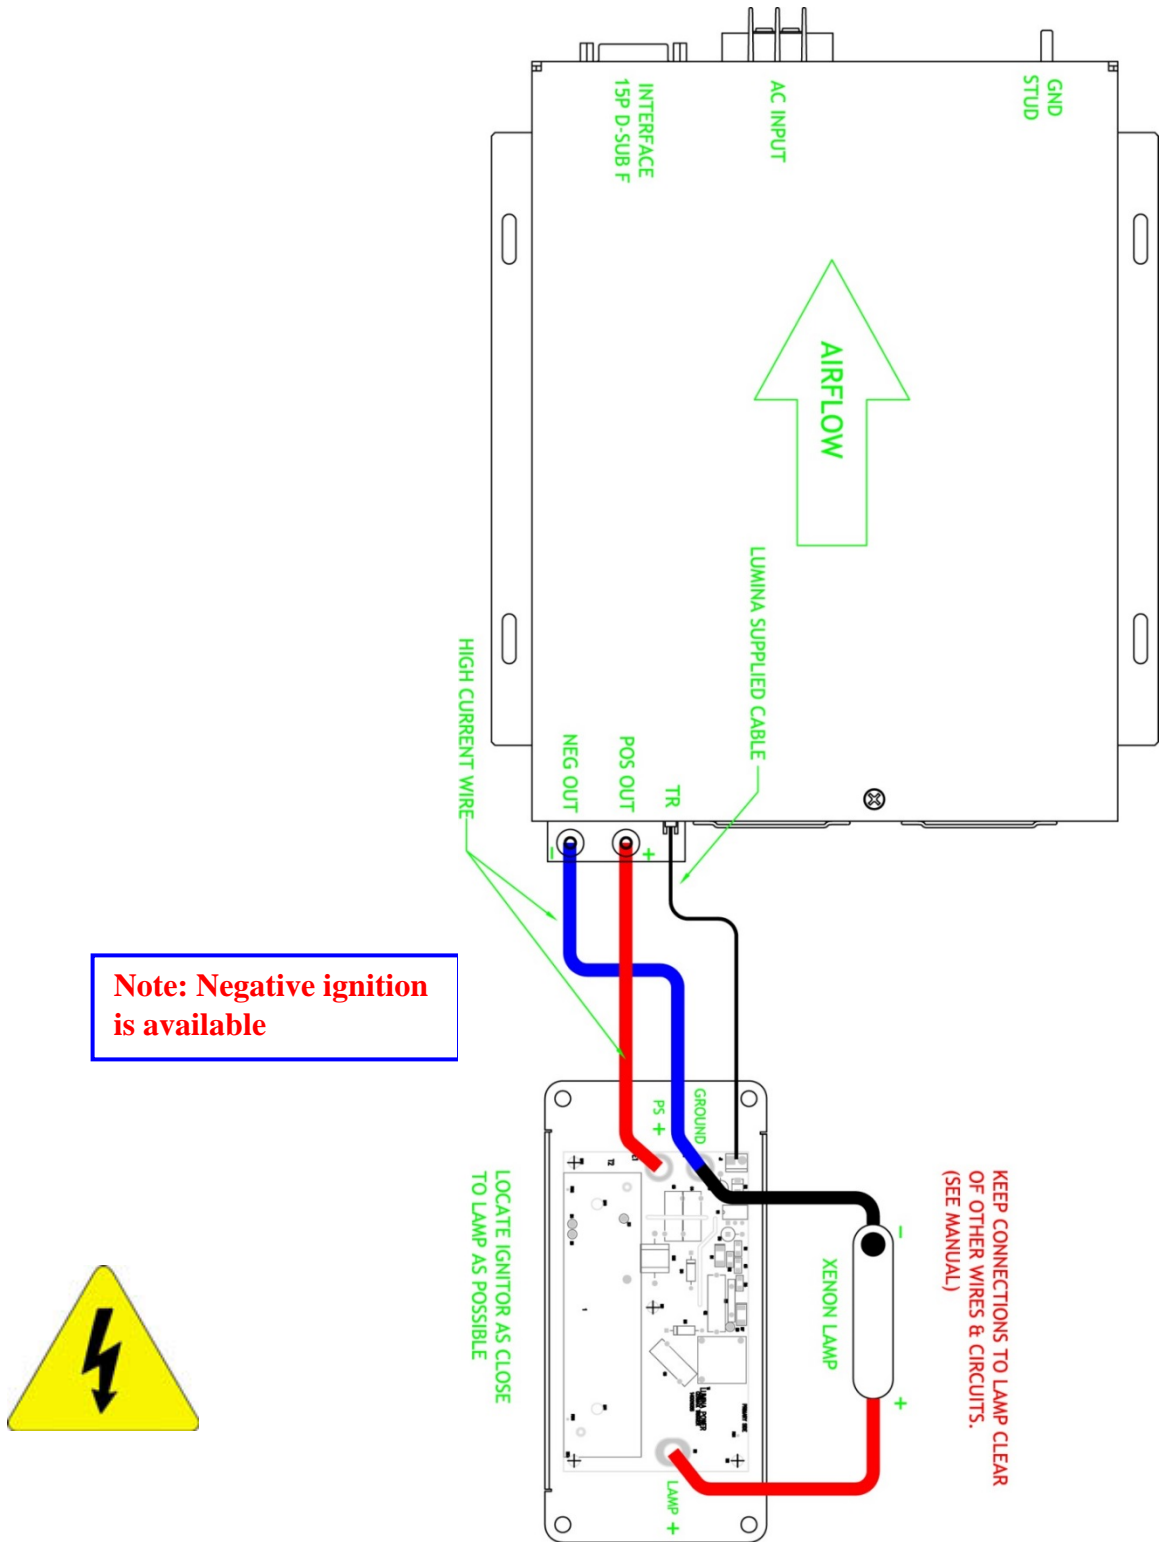

Figure 5, XLB-650 Lamp Connections
- Please refer to Figure 5, XLB-650 Igniter Outline Drawing, for information regarding required clearances around the high voltage igniter coil.
1. **CONNECTING TO Xenon Lamp** Figure 5 shows the interconnections between the XLB-650, the Igniter module and the Xenon lamp. Because the Igniter module produces a fast 40KV pulse when igniting the Xenon lamp, it is important to keep connections between the igniter module and the lamp as short as possible to avoid I²R losses in the wire. *Wire length of 30 cm or less is recommended for reliable ignition!*
2. **TR Trigger Sense Connection:** Connect the TR trigger sense connection wire to the trigger module and the XLB-650 main power supply chassis. The cable for this connection has been provided. The location of the connections is shown in Figure 5. Note: unit will not operate if not connected.